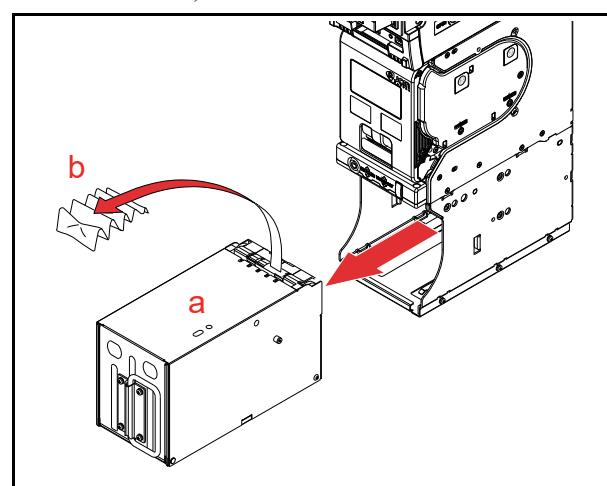

**Figure 2-27** Recycler Drum Banknote Jam Clear 3
4. Use a 6mm Hex Nut Driver to rotate the desired Drum Shaft (Figure 2-27 a) in the dispense direction indicated by the arrow.
5. Remove the jammed Banknote (Figure 2-27 b).